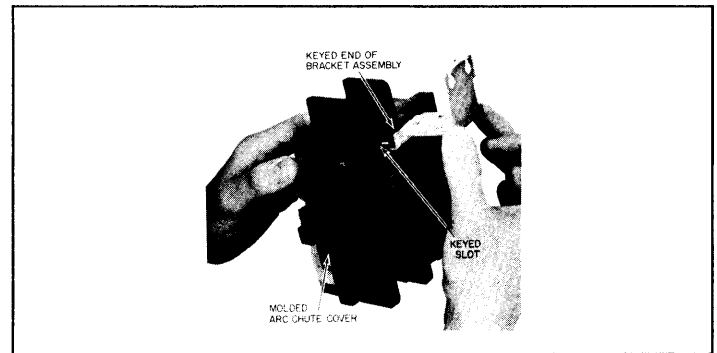

Figure 3. Installation of mounting bracket.
6. Take molded arc chute cover and insert keyed end of mounting bracket into keyed slot at top of the molded cover. See Figure 3.